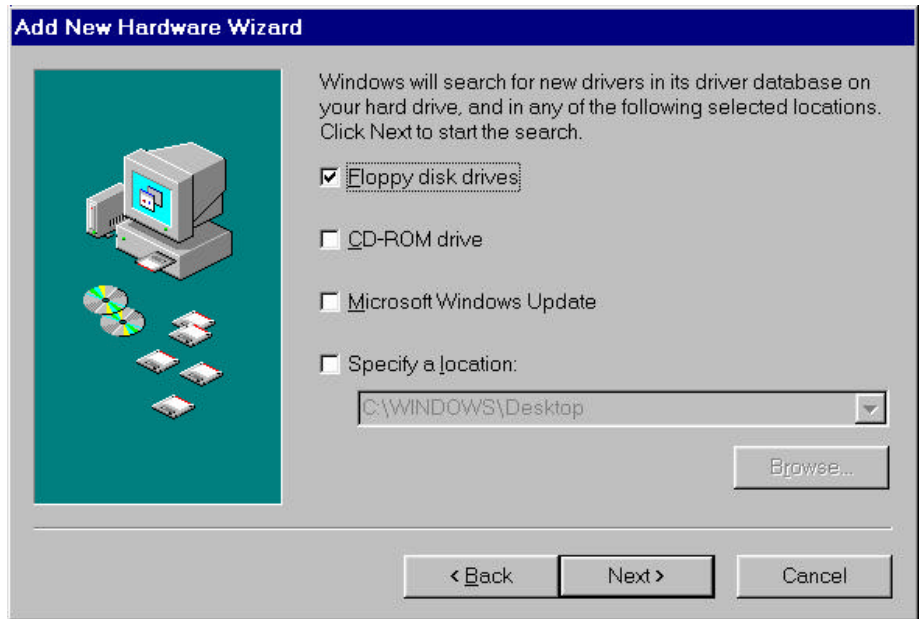

Figure 3. Add New Hardware Wizard
4. Insert the disk labeled “White Mountain DSP Driver Disk for Windows 95/98” into the floppy drive and click next. Windows 98 will then automatically detect and install the Apex-ICE driver from the disk as shown in figure 3. Click Next